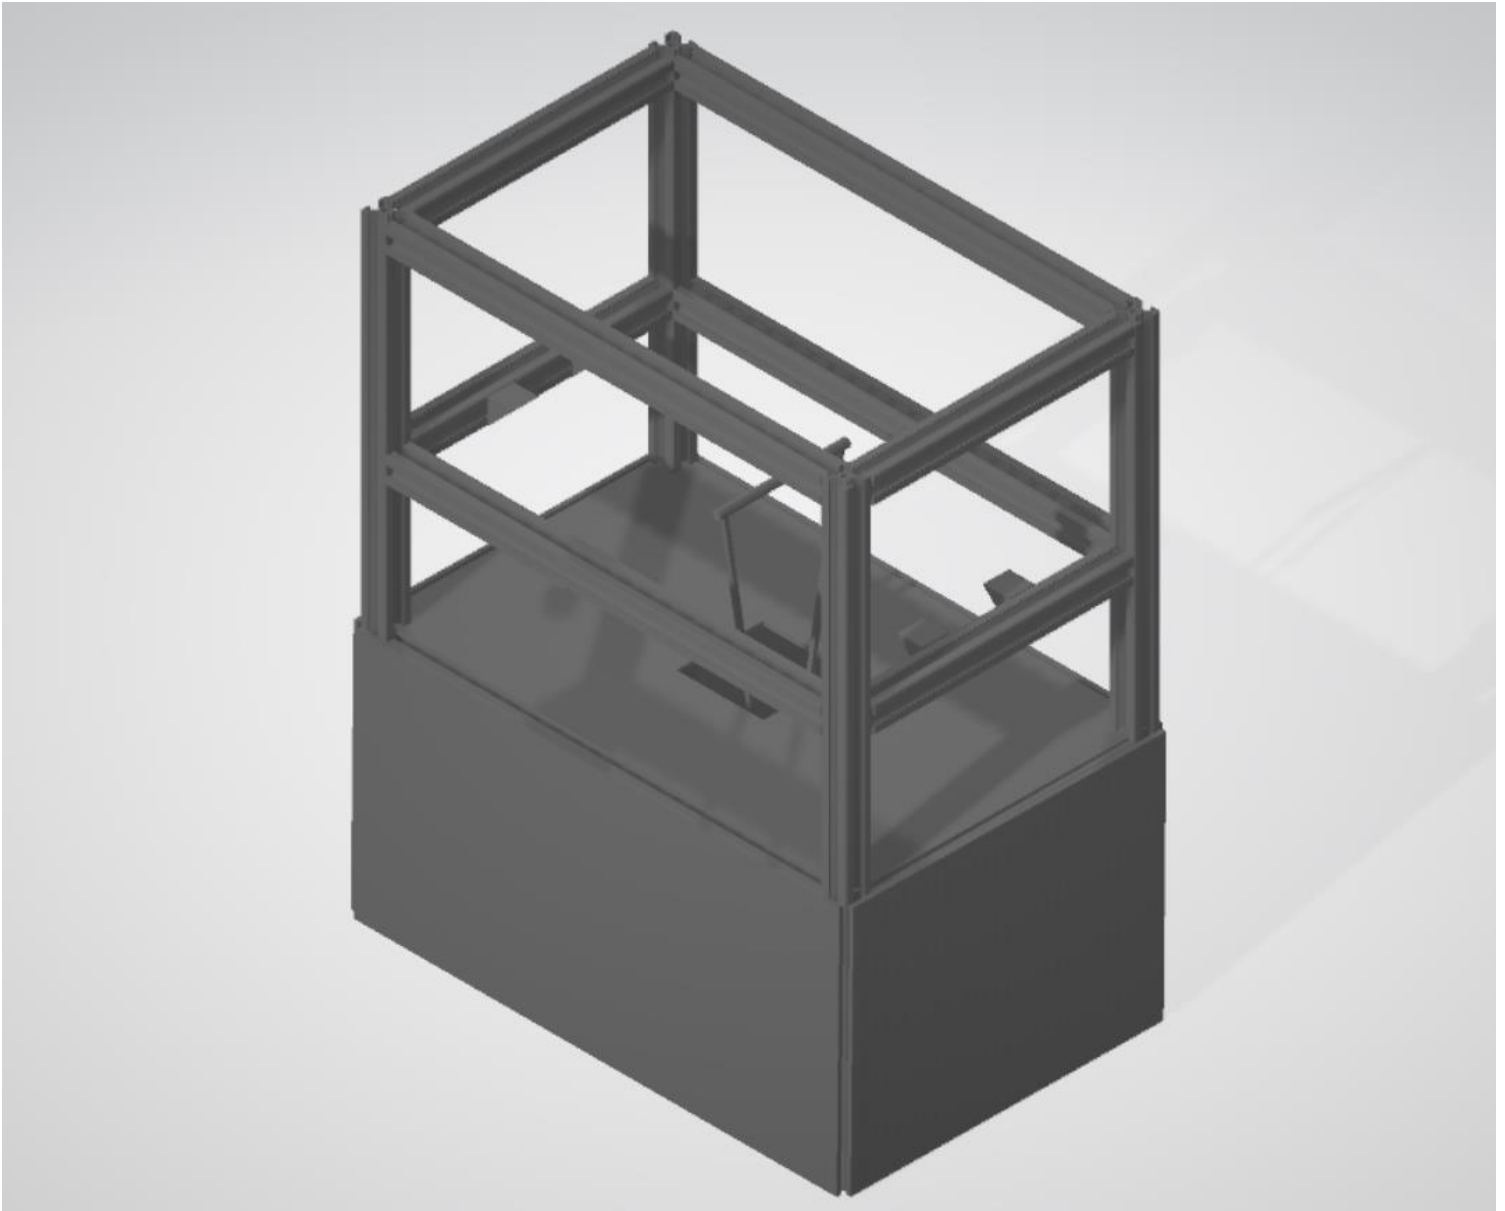

Figure 6.
- 4.1. The test device will have an **automatic loading mechanism**. The loading process will be measured using **precise weight sensors**. The device will be stable and will test all bridges under the **same conditions (Figure 6)**.